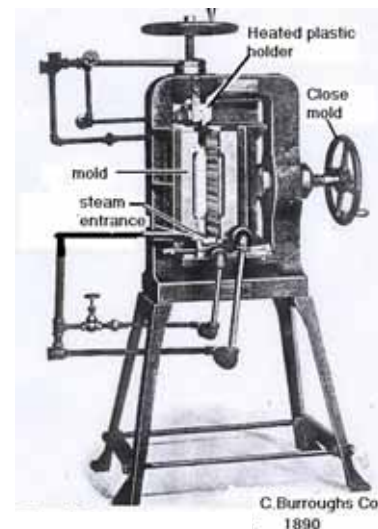
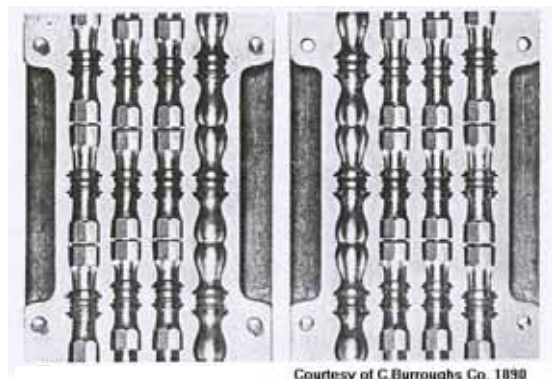

Figure 1. Blow-form press.
Figure 2. Blow-form mold.
Celluloid, a combination of cellulose nitrate, camphol and other chemical additives, was the first commercial plastic sheet available in 1868. Equipment to fabricate the sheet used a “blow form process” in which two heated celluloid sheets were placed between female molds and when the press was closed the cavity perimeter edges were trimmed and heat sealed together. Steam pressure then entered between the sheets to force the pre-heated plastic into the cavities. (Fig. 1, Fig. 2).
- Fig. 1 and Fig. 2 - Plastics History U.S.A., J. H. Dubois – 1972, pgs. 45 and 347.